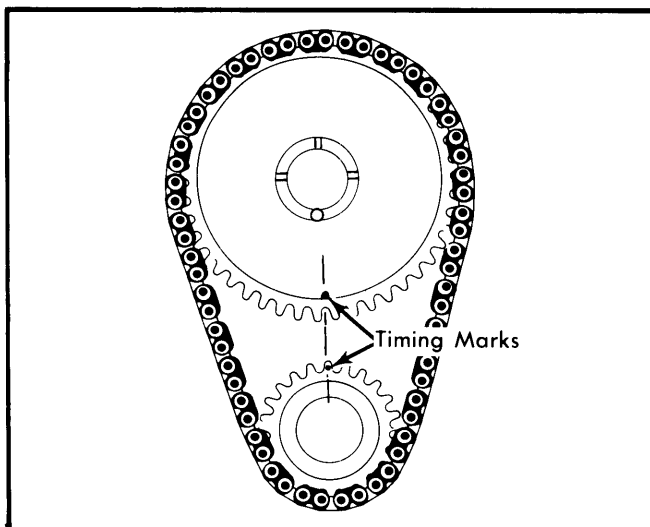

Fig. 17 Aligning Timing Sprocket Marks
**Removal** – Remove front engine cover as previously outlined. Remove fuel pump outlet line and mounting bolts. Lay fuel pump to side. Crank engine over until timing marks are aligned as shown in Fig. 17. Remove camshaft sprocket bolt. Remove washer and 2-piece fuel pump eccentric. Slide both sprockets and timing chain forward to remove.
**Installation** – 1) Position timing chain on sprockets, aligning timing marks as shown in Fig. 17. Slide timing chain and sprockets onto camshaft and crankshaft as an assembly.